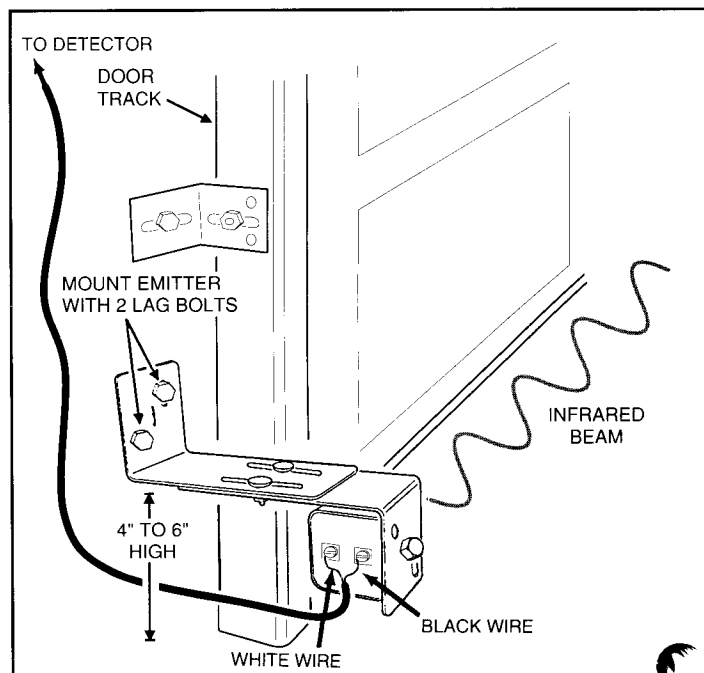

Figure 23
Step 39: For each bracket assembly drill two 3/16" pilot holes into the wall centered into slotted holes. Fasten bracket to walls with two lag screws through slotted holes. Position bracket to be square with the floor. Tighten both lag screws (see Figure 23). For each bracket assembly, attach mating bracket using the carriage bolts and nuts, as in Figure 22. Do not completely tighten nuts yet. Position detector in bracket as shown in Figure 22. Fasten detector to bracket with acorn nut and washer. Do the same with emitter. Slide bracket unit out from wall an equal distance until beam is completely clear of garage door, door hinges, tracks, springs, rollers, or any other part of door mechanism. Tighten carriage bolts and nuts.